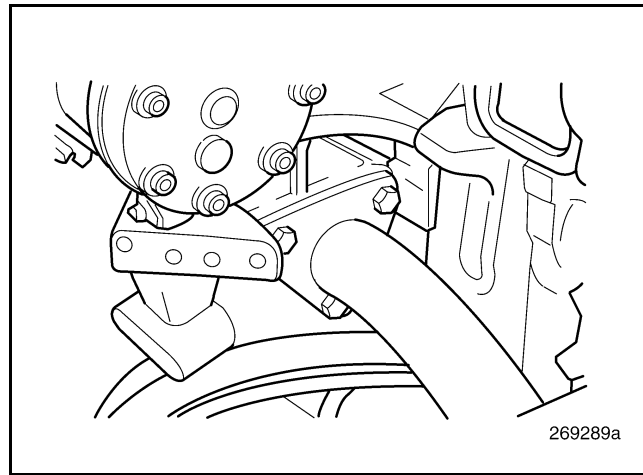

Figure 409 — Coolant Inlet Tube Mounting (Back of Front-Redesign Water Pump)
- Install the coolant inlet tube (from the oil cooler) on the inlet port at the back of the water pump on the left side of the engine (Figure 409). Tighten the capscrews to 40 lb-ft (55 N•m).